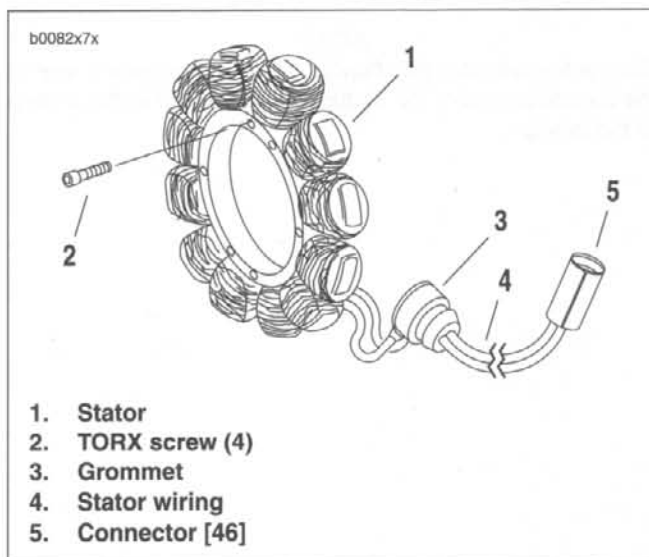

Figure 7-25. Stator Assembly
1. See Figure 7-25. Disconnect stator wiring (4) from voltage regulator wiring at connector (5) [46] near the oil pump.
3. Withdraw stator wiring (4) from behind the gearcase cover.
4. Remove and discard the four TORX screws (2) which secure stator (1) to left crankcase half.
1. See Figure 7-25. Feed stator wiring (4) with attached grommet (3) into open grommet hole in left crankcase half.